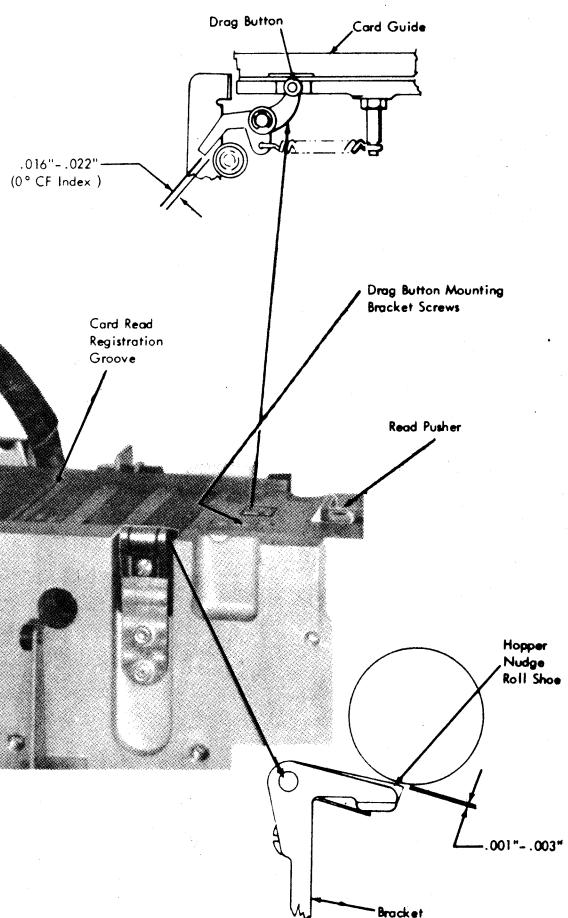

Figure 4-8. Preread and Read Station Adjustments
Adjust hopper nudge roll shoe brackets for .001" to .003" gap between the shoes and the hopper nudge roll (Figure 4-8). Check for a minimum of 2.5 pound pull-out force from each roll.
Refer to Figure 4-8 for pusher location.
At 0° on the CF index, check that drag button contacts pad on under surface of card guide, and the drag button arm has $.016''$ to $.022''$ clearance to the roller on the read pusher arm (Figure 4-8). Drag button must not contact sides of clearance hole. To adjust, position drag button mounting bracket.
1. With the CF clutch latched and a $.003''$ feeler gage between pressure roll and feed wheel, adjust down stop to be in contact with pressure roll arm (Figure 4-8). There should be
6. To provide $.070''$ to $.110''$ overlap of pressure roll on card, loosen pressure roll pivot stud and insert the proper number of shims (P/N 627576). See Figure 4-8.
On some machines, the pressure roll locking screw (Figure 4-8) has been factory sealed. Skew adjustment on these machines should not be necessary in the field.
3. Adjust read pressure roll, by means of its locking screw, so the card will move against the guide rail within $4''$ to $6''$ of card travel. A feeler gage can be inserted, as indicated in Figure 4-8 to facilitate adjustment.